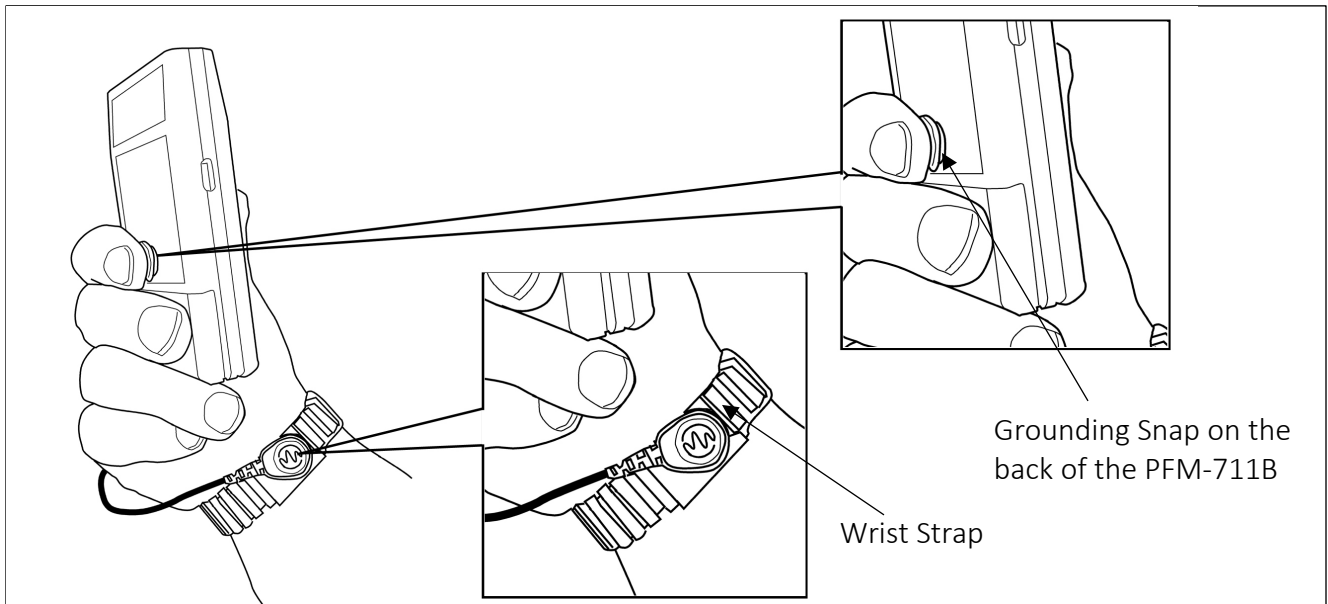

Figure 3. Operator properly grounded to use the PFM-711B
1. With the operator's fingers contacting the grounding snap on the back of the meter (Figure 3), press the green **RANGE** button switch to select the kV/inch range. The LED for **kV/inch** will be illuminated.